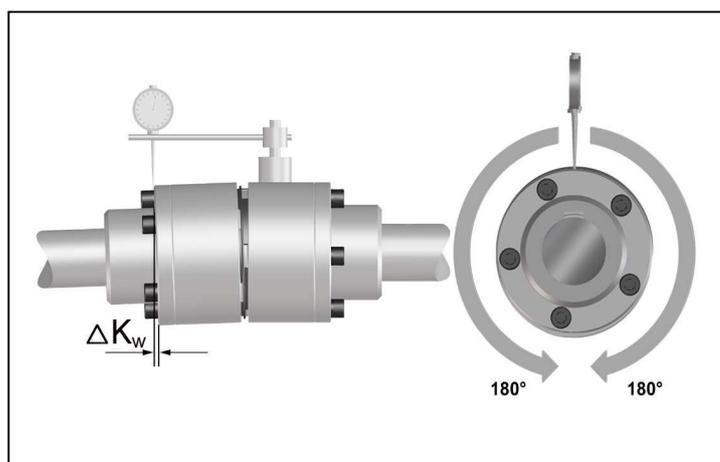

Fig. 7
- Measure on the face of the external diameter a complete rotation (360°). Determine in this case the greatest deviation  $\Delta K_{w1}$  as well as the smallest deviation  $\Delta K_{w2}$  (Figure 7).